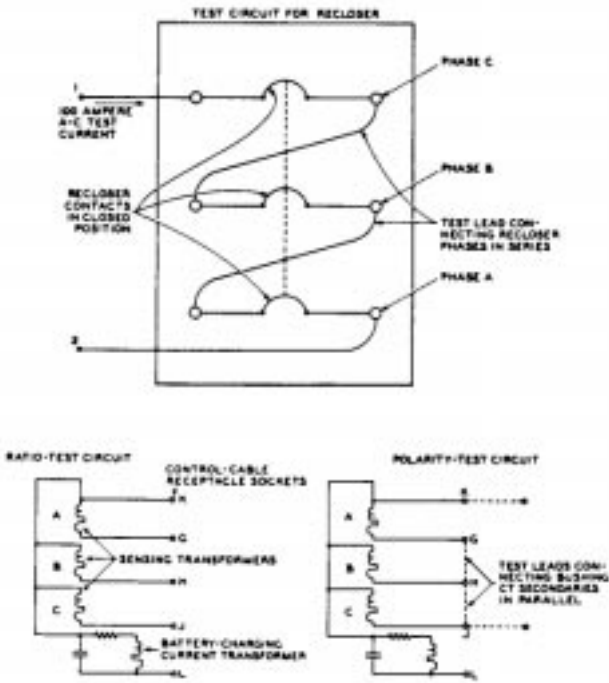

Figure 26
Assemble the test circuit as shown in the top drawing of figure 26. Connect the phases in series and close the recloser contacts with KA90R closing tool as described on page 6. Connect a 100-ampere a-c test current supply to points 1 and 2.
- 1. Connect sockets G, H, and J of the control-cable receptacle in series with jumper leads as indicated in figure 26. The jumper leads connect the secondaries of the current transformers in parallel so that total output current, measured at points K and J, should be 300 ma.
The sensing transformers and battery-charging transformer can be tested using the circuits shown in figure 26. An a-c ammeter possessing a 0 to 500 milliamperere range is required.